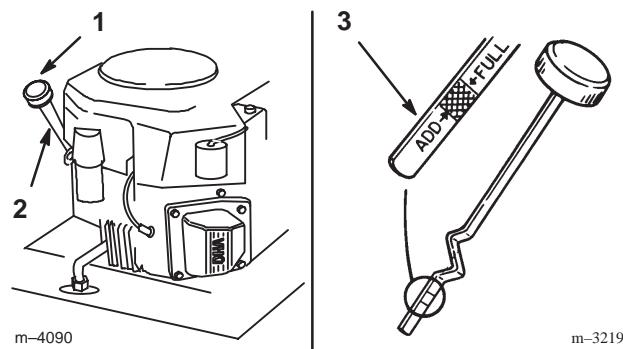

Figure 25
2. Clean around the oil dipstick (Fig. 25) so dirt cannot fall into the filler hole and damage the engine.
3. Unscrew the oil dipstick and wipe the metal end clean (Fig. 25).
4. Slide the oil dipstick fully into the filler tube, do not thread onto tube (Fig. 25). Pull the dipstick out and look at the metal end. If oil level is low, slowly pour only enough oil into the filler tube to raise the level to the "FULL" mark.
5. Slowly pour approximately 80% of the specified amount of oil, page 29, into the filler tube (Fig. 25). Now check the oil level; refer to Checking Oil Level, page 29. Slowly add additional oil to bring to "FULL" mark on dipstick.